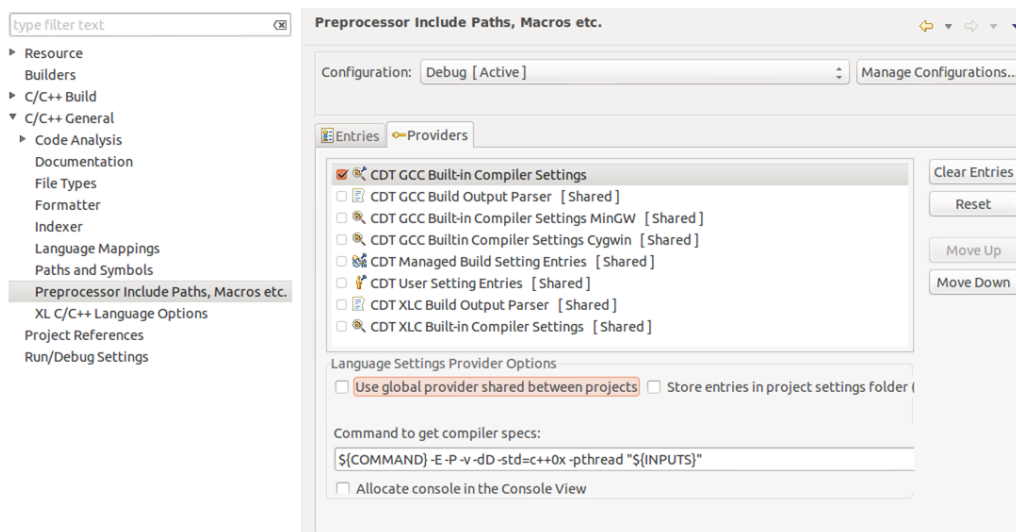

Figure 3: Project settings
- add “-std=c++0x” to “*Command to get compiler specs*” textfield that is now active (see Figure 3).